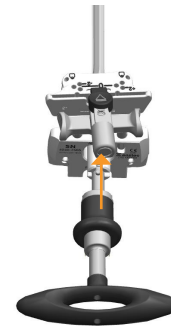

Figure 69
3. Attach the Short IM rod to the T-handle and insert through the alignment assembly (Figure 69). IM rod will lock into the alignment assembly in one of four places